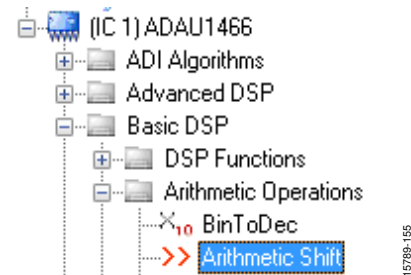

Figure 53. Arithmetic Shift Block Selection
- From the **Basic DSP > Arithmetic Operations** folder, click **Arithmetic Shift** (see Figure 53) and drag it into the project space to the right of the toolbox.